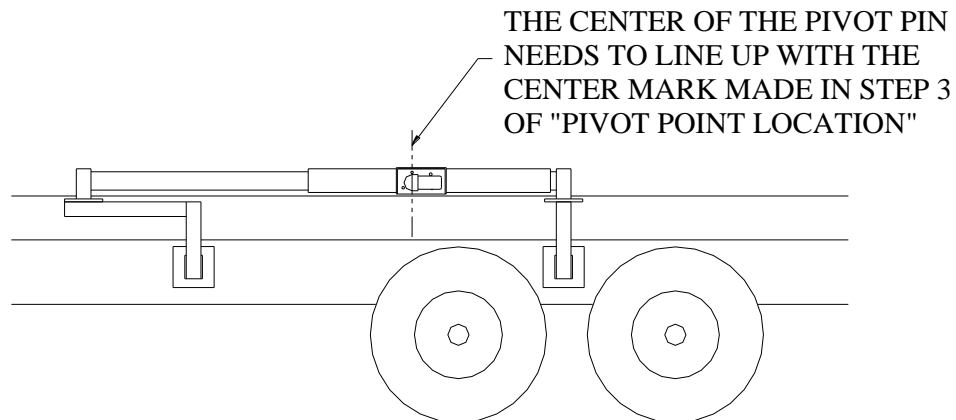

Figure 10
6) Set the driver's side pivot on the up-right legs and center the pads on the tubing as shown below in figure 10.
Note: To ensure proper operation the cylinder should be slid all the way to the back (as shipped and shown in Fig.10)